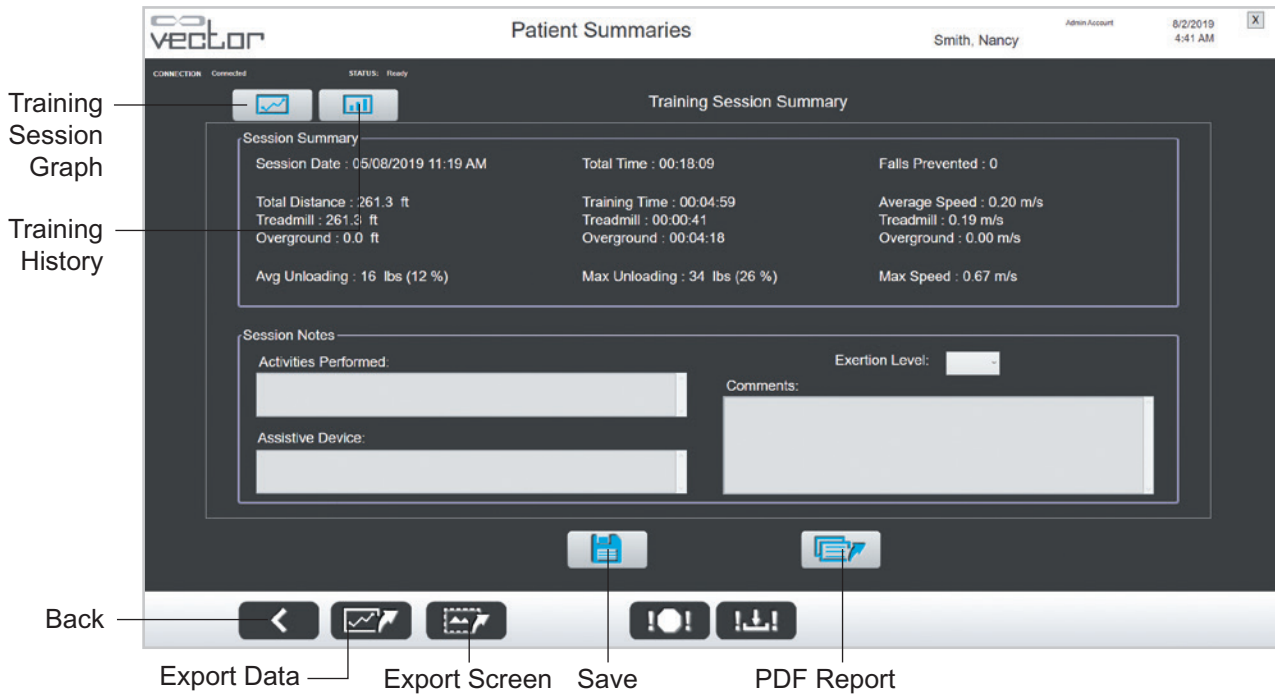
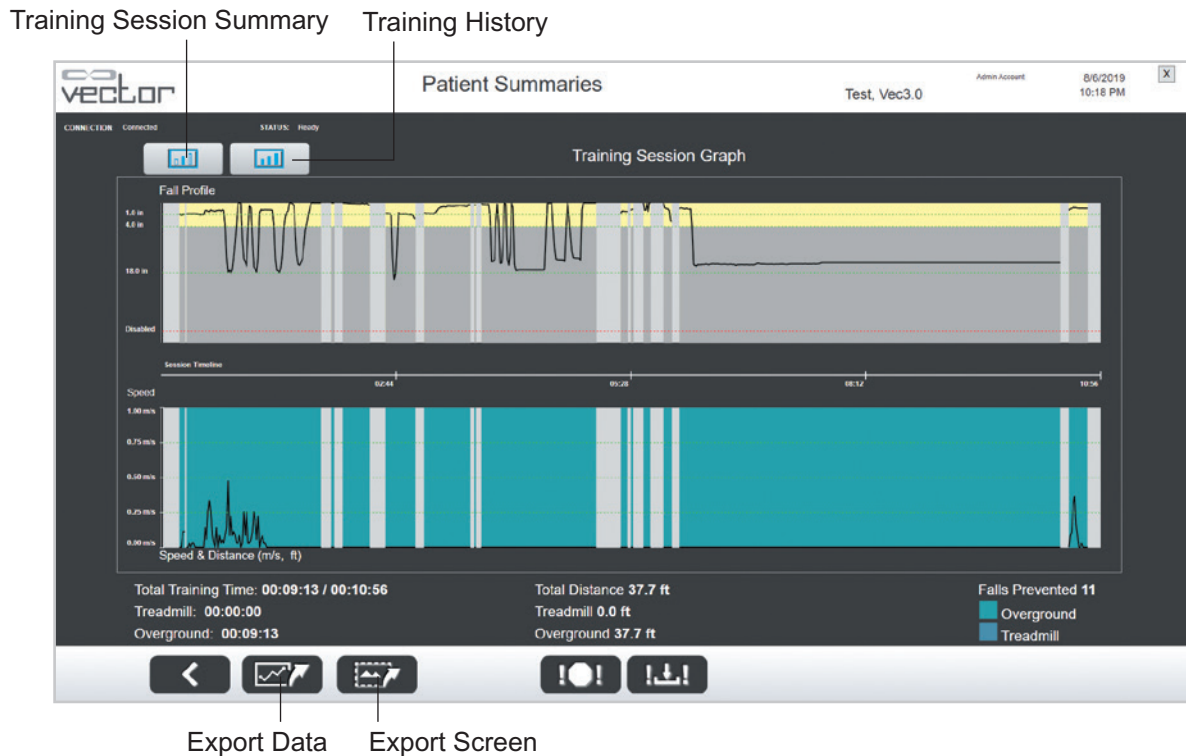

Figure 8-6: Training Session Summary
Figure 8-7: Training Session Graph
- From the Training Session Summary screen, press Training Session Graph. See Figure 8-6. This displays the summary in graph format. See Figure 8-7.